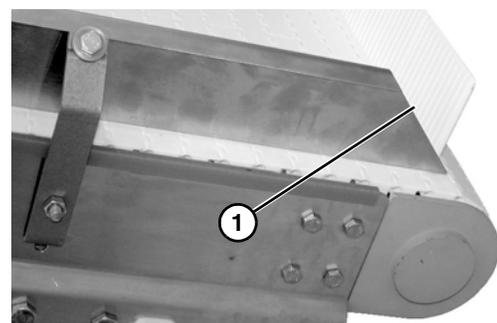

Figure 20
When installing guides, be sure that the angled end of guide is installed on the idler end of conveyor (Figure 20, item 1).